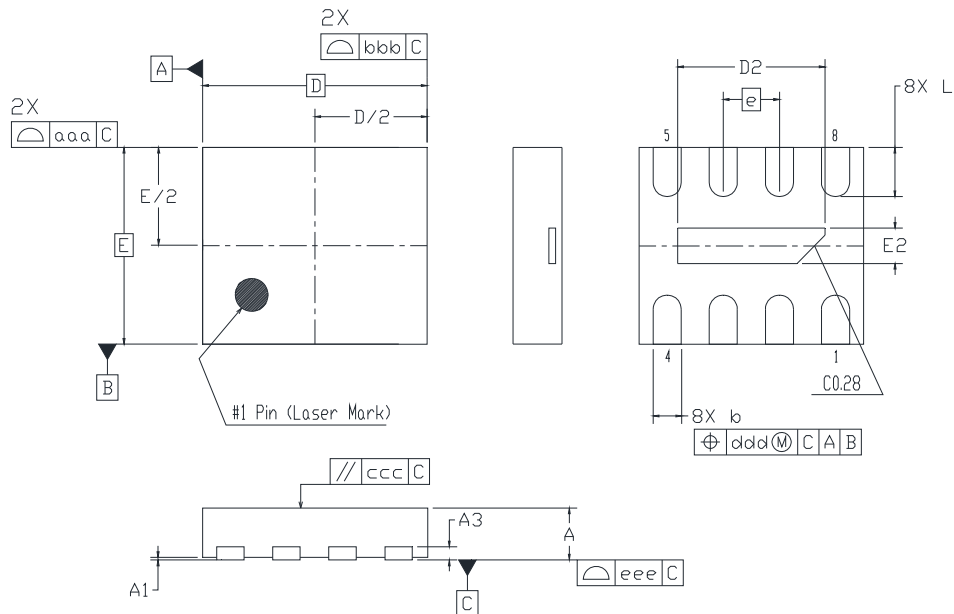

Figure 6. 8-Pin TDFN Package Drawing
- Corrected Figure 6 title on page 12.